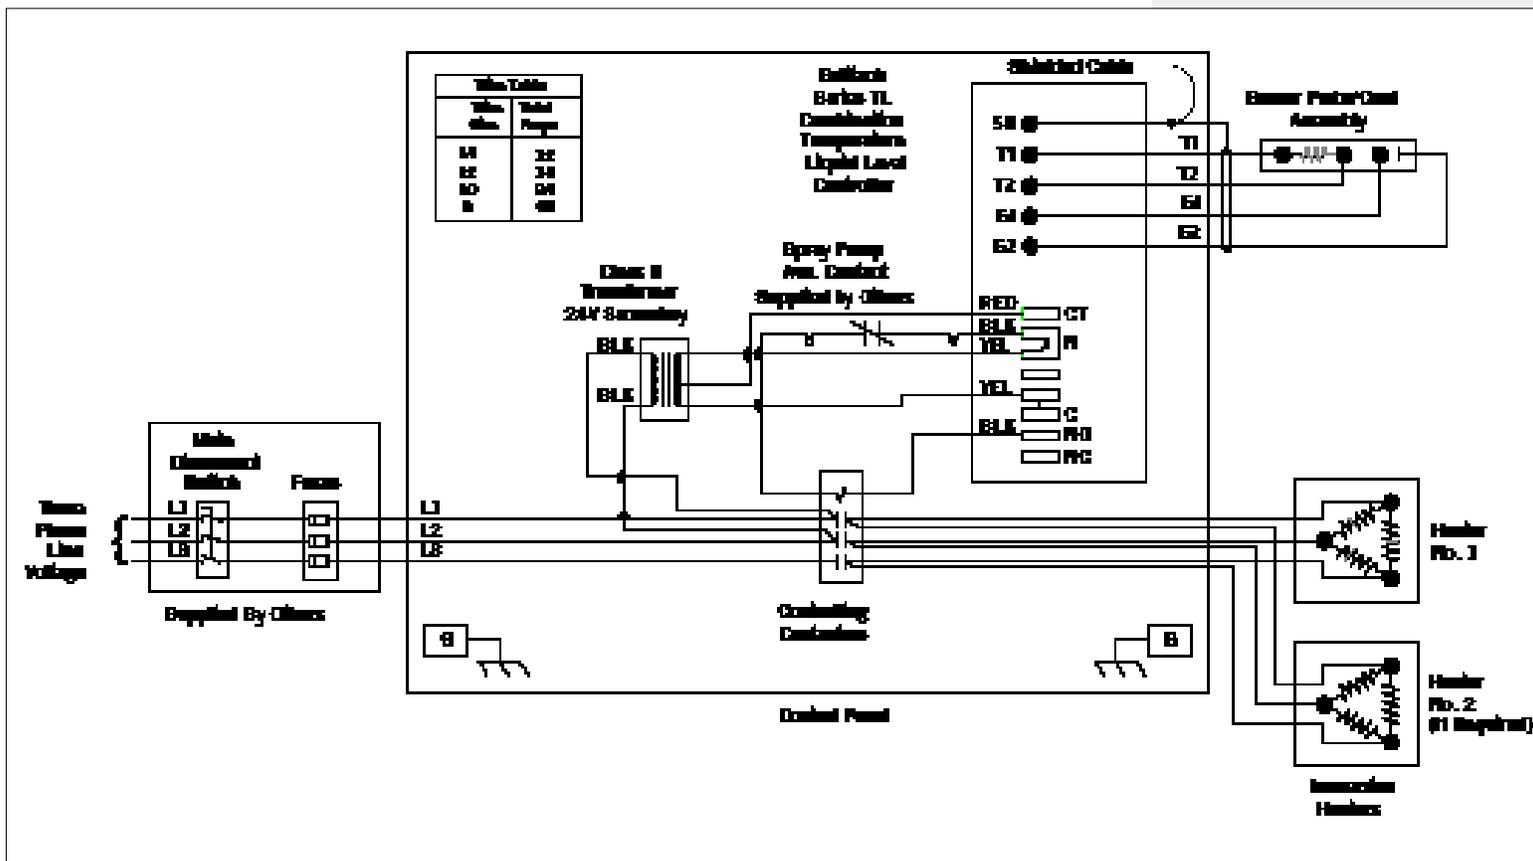

Figure 23. Example Wiring Diagram for Stand Alone BAC Heater Control Panel (Refer to Submittal Drawing for Specific Wiring Diagram)
**NOTE:** Figure 23 is superseded by any drawing supplied with the panel by the manufacturer.